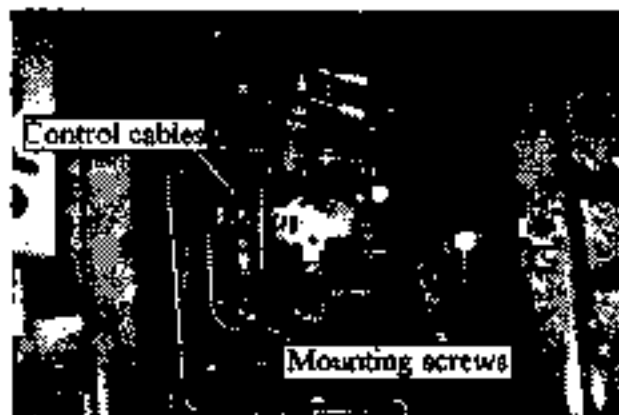

FIG 69
7) Disconnect the control cables and pull them out the front of the reservoir. See Fig 69.